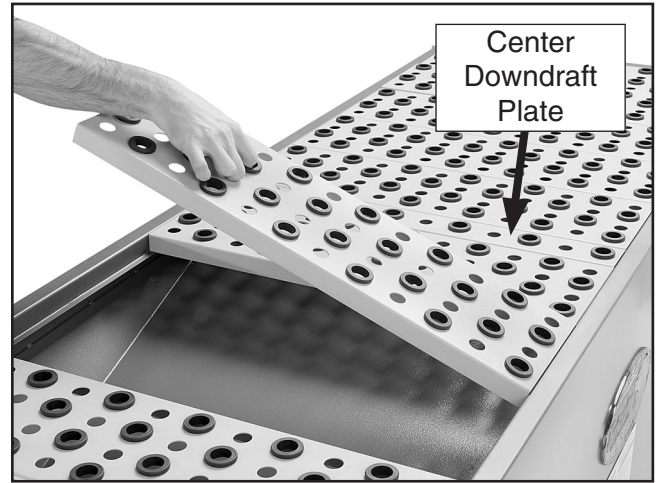

Figure 6. Installing downdraft plates.
2. Install the downdraft plates as shown in **Figure 6**, placing the thinner center downdraft plate in the middle.